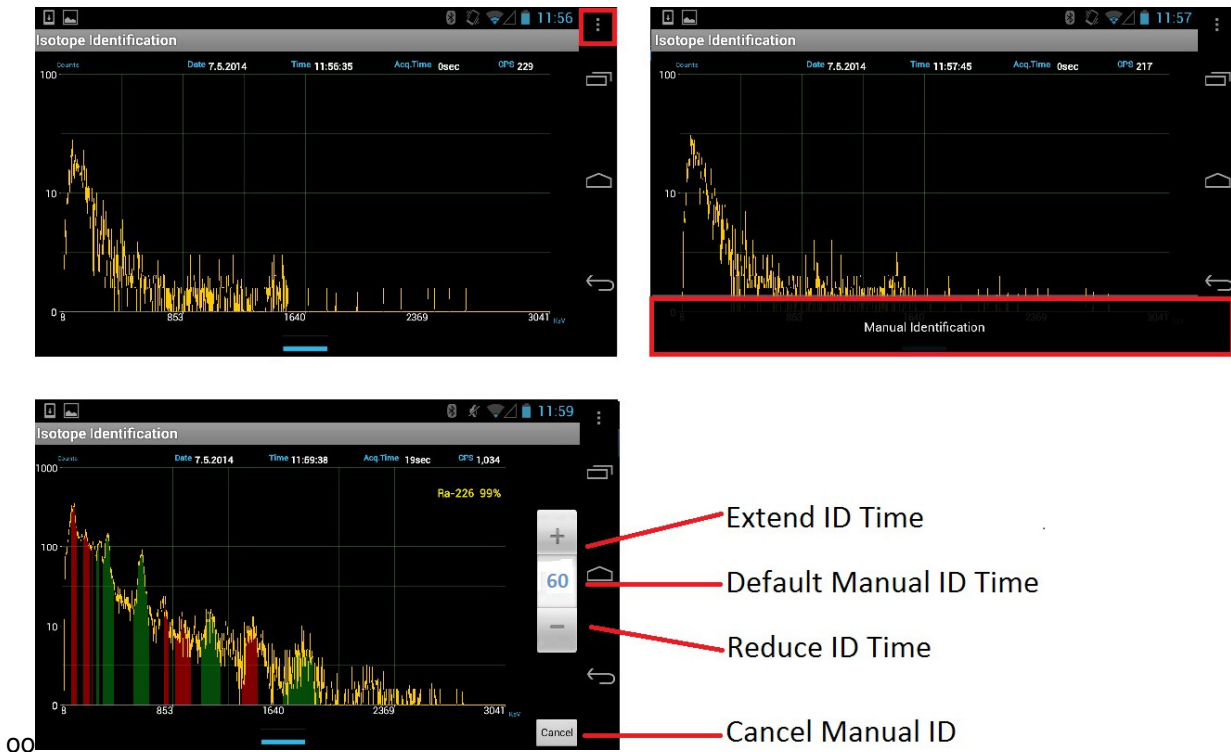

Figure 4.16. Manual Identification example
2. Touch the menu button to display the Manual Identification bar at the bottom of the screen (Figure 4.16).